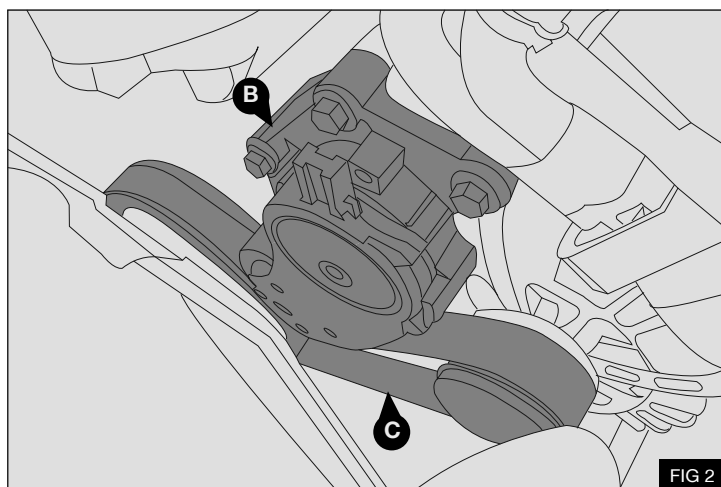

FIG 2
3. Turn the automatic tensioner (B) clockwise and insert a pin to lock the tensioner in the open position - Fig 2
4. Remove and discard the original drive belt (C) - Fig 2